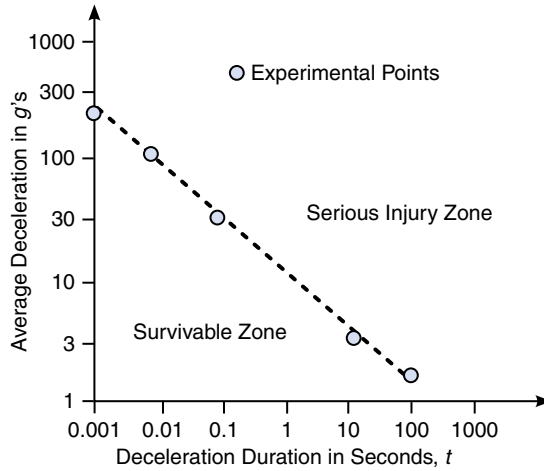

FIGURE 16.6
In Fig. 16.6, the axes are expressed in terms of the \log_{10} of the variables. Not only can we get a scale covering several orders of magnitude, we also can infer something important about the relationship. In fact, it is linear, not between the actual variables g and t_S , but between $\log_{10} g$ and $\log_{10} t_S$.
Fig. 16.6 can also be expressed as a formula. A straight line on a log-log plot corresponds to the number on the x-axis raised to a certain power. In this case, the formula for the line dividing serious injury from survivability is
4. Using the force versus time graph (Fig. 16.6) for human resistance to g forces, predict whether Stapp suffered serious injury in the course of his record-breaking trip.
18. As a bioengineer at the Crash Safety Test Facility of a major automobile company, you are asked to provide more data for the Gadd severity index (Fig. 16.6). Your boss suggests using live animals, dogs and cats from the local pound, in hard impact tests and inspecting them for injury. You know their injuries will be severe or fatal, and using dogs and cats seems cruel. What do you do? (Use the Engineering ethics matrix format to summarize your conclusions.)